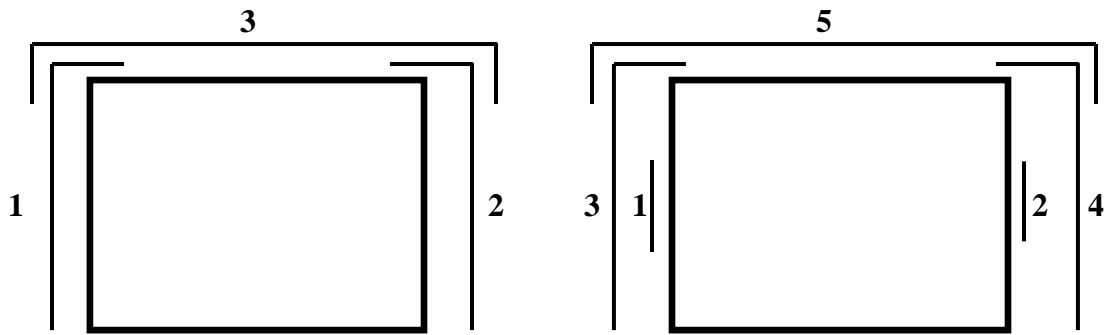

Figure 1
2. Seal the external joint with an outside sealer wrap conforming to ASTM C877 that is at least 12 inches wide and covers the joint on both the sides and the top of the box section. Use ConWrap CS-212 from Concrete Sealants, Inc., EZ-Wrap from Press-Seal Gasket Corporation, Seal Wrap from Mar-Mac Manufacturing Co., Inc., Cadilloc External Pipe Joint from Cadilloc, or an approved equal for the outside sealer wrap. If the outside sealer wrap is not applied in a continuous strip along the entire joint, a 12 inch minimum lap of the outside sealer wrap is permitted. Before placing the outside sealer wrap, clean and prime the area receiving the outside sealer wrap in accordance with the sealer wrap manufacturer recommendations. The joint wrap manufacturer installation recommendations shall be included with shop drawings submitted for review. The external joint wrap shall be installed in pieces, as indicated on Figure 1 below: